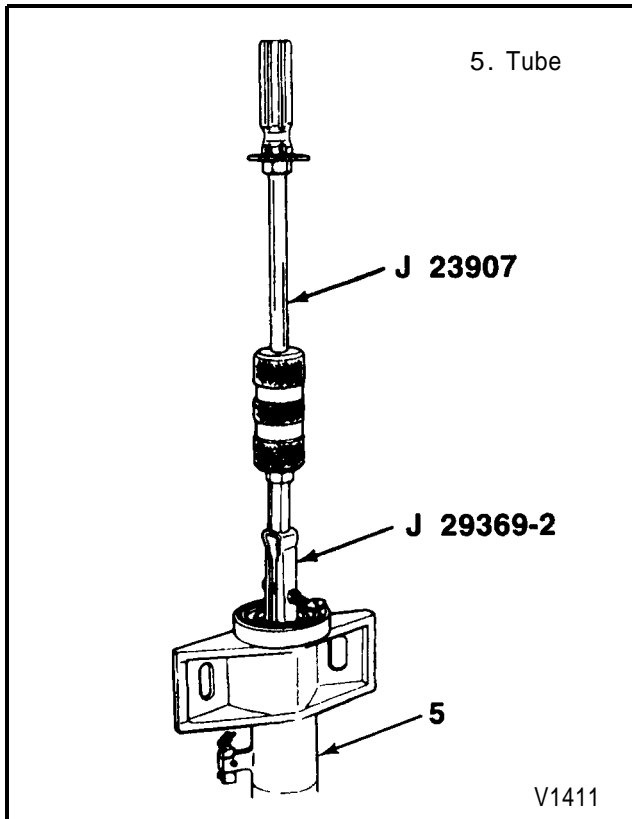

Figure 6 - Removing the Axle lube Bearing and Seal
2. Shaft (1) with deflector (2) and retaining ring (8).
- Strike the inside of the shaft flange with a brass hammer to dislodge the shaft (1). Use care in pulling the splined shaft (1) through the seal diameter to avoid cutting the seal (3).
3. Shaft seal (3) and bearing (4) using J 29369-2 and J 23907 (figure 6).